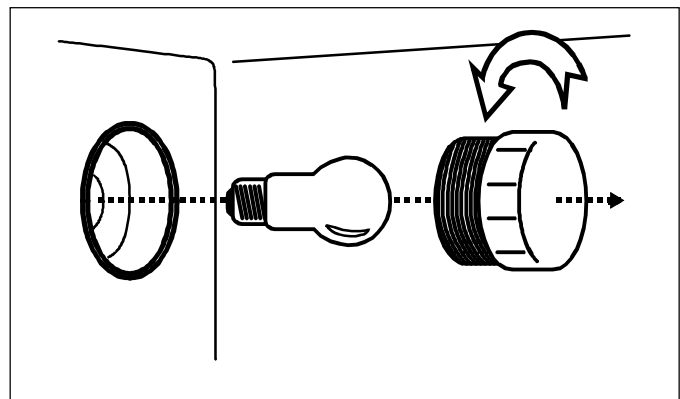

Figure 23
3. Unscrew light bulb cover located in rear of oven cavity. Then turn light bulb counterclockwise to remove. (Figure 23)